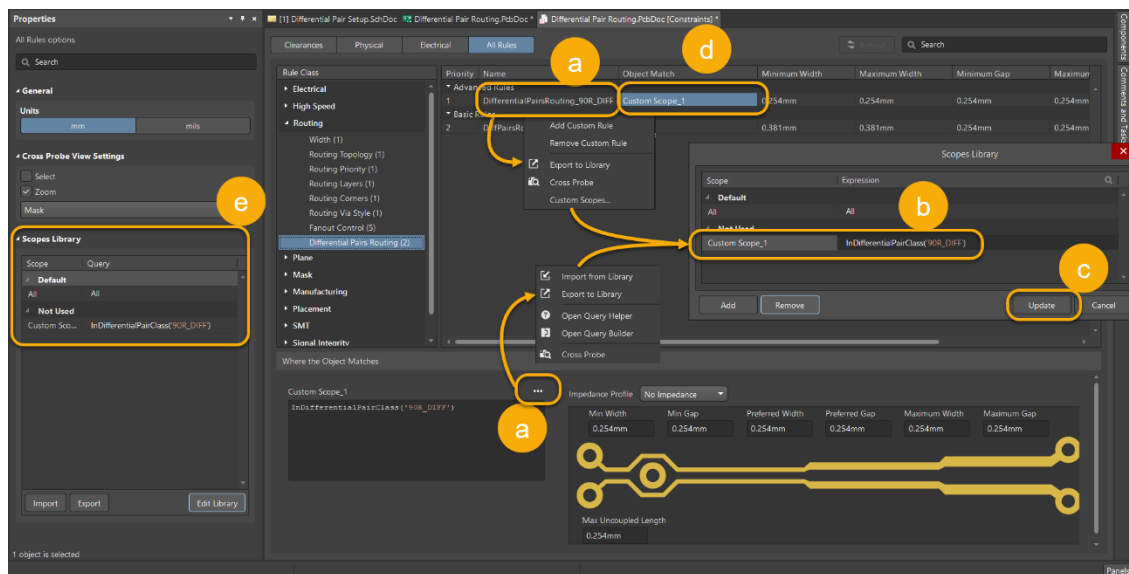

Figure 20. Constraint Manager - All Rules with Export to Library
- Select the **Ellipsis** button and choose **Export to Library** (Figure 20) or hover over the rule `DifferentialPairsRouting_90R_DIFF`, right click and select **Export to Library**.